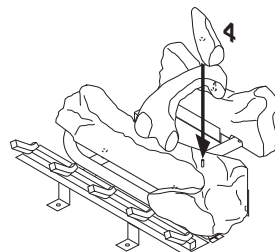

Figure 21 - Installing Log #4 (CD36M-A Series Shown)
- Place log #4 (small round log) on pin on right side of front log (see Figure 21).